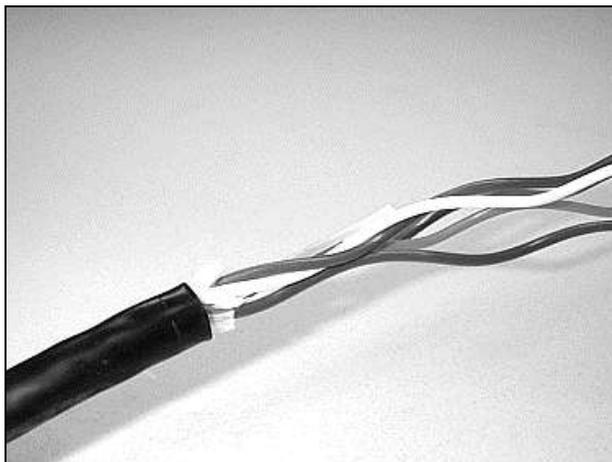

Figure 17 – Unwrap the buffer tubes.
4.22 Carefully unwrap the buffer tubes to expose the central strength member (Figure 17).